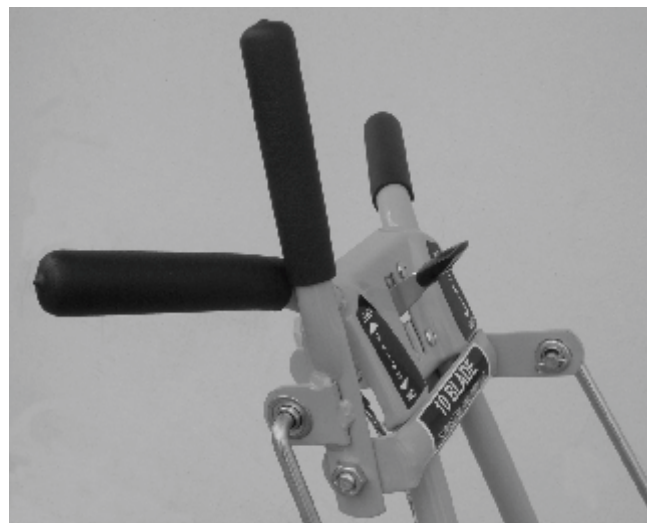

FIGURE 3: Soak the grips in hot water for a few minutes to aid in installation.
- F. Install the three handle grips (included in the hardware kit) on the upper handles and manual drive lever (see Figure 3). Soak the grips in hot water for a few minutes to aid in installation.